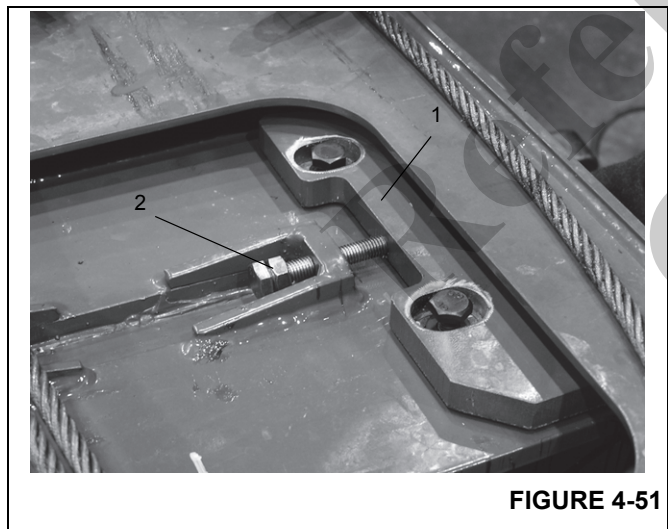

FIGURE 4-51
10. Insert the wear pads and pad holders (Figure 4-51, 1) on the left and right side of the Fly section.
11. Measure and adjust the wear pads until the Fly section is centered  $\pm 1\text{mm}$  ( $\pm 0.04$  inch) in the Outer Mid section. Apply Loctite and tighten jam nut (Figure 4-51, 2).